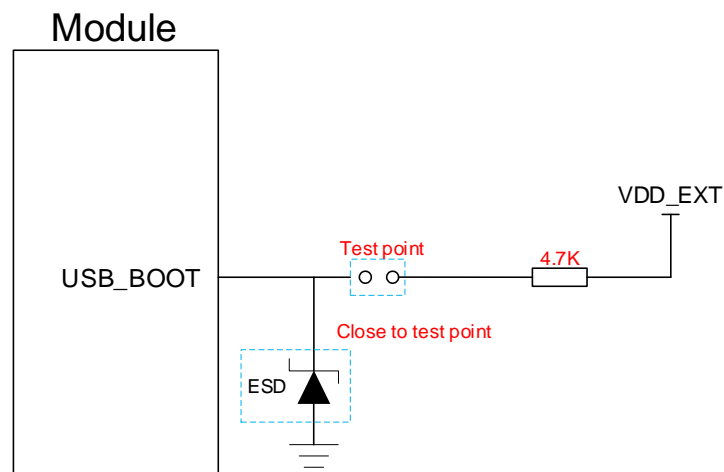

Figure 18: Reference Circuit of USB_BOOT
2. Follow the above timing when using MCU to control the module to enter the forced download mode. It is not recommended to pull up USB_BOOT to 1.8 V before powering up VBAT. If you need to manually force the module to enter download mode, directly connect the test points as shown in **Figure 18**.
4.3. (U)SIM Interface